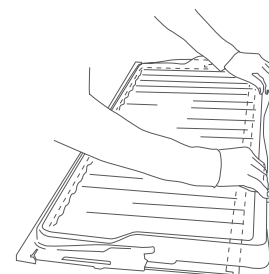

Fig.27 Fasten lid to rear clips and ensure lid is secure
- 5 Fasten lid to rear clips. Ensure that the cover is fully secure at the front and the back of the shelf (refer to Fig.27).